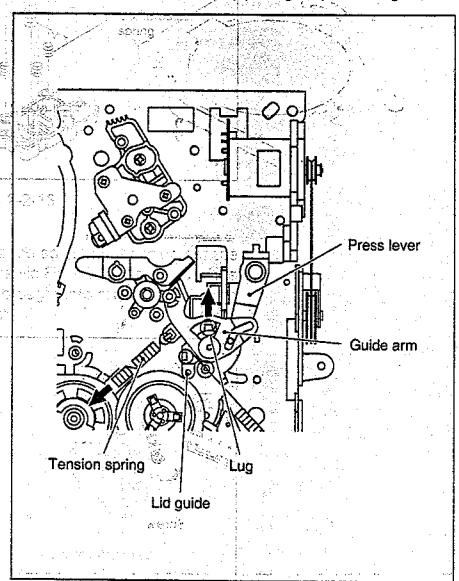

Fig. 2-2-11
- (1) Remove the spring and expand the lug of the lid guide in the arrow-indicated direction. Then remove the guide arm by pulling it up.
- (2) Remove the press lever by pulling it up. (See Fig. 2-2-11)